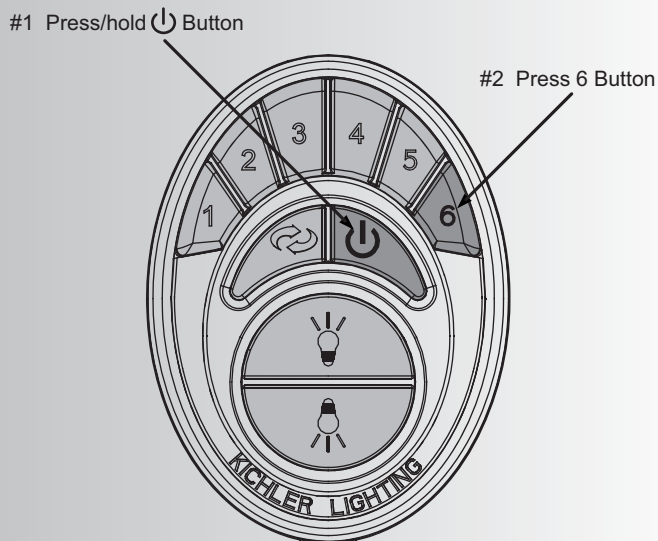

Fig. 21
6. After the ceiling fan light blinks twice, press and release the High Speed (6) Button. Let the ceiling fan run for a minimum of 90 seconds ( 1 ½ minutes). The control system will do another self check, initialize all operational functions and complete the programming process (Figure 21).